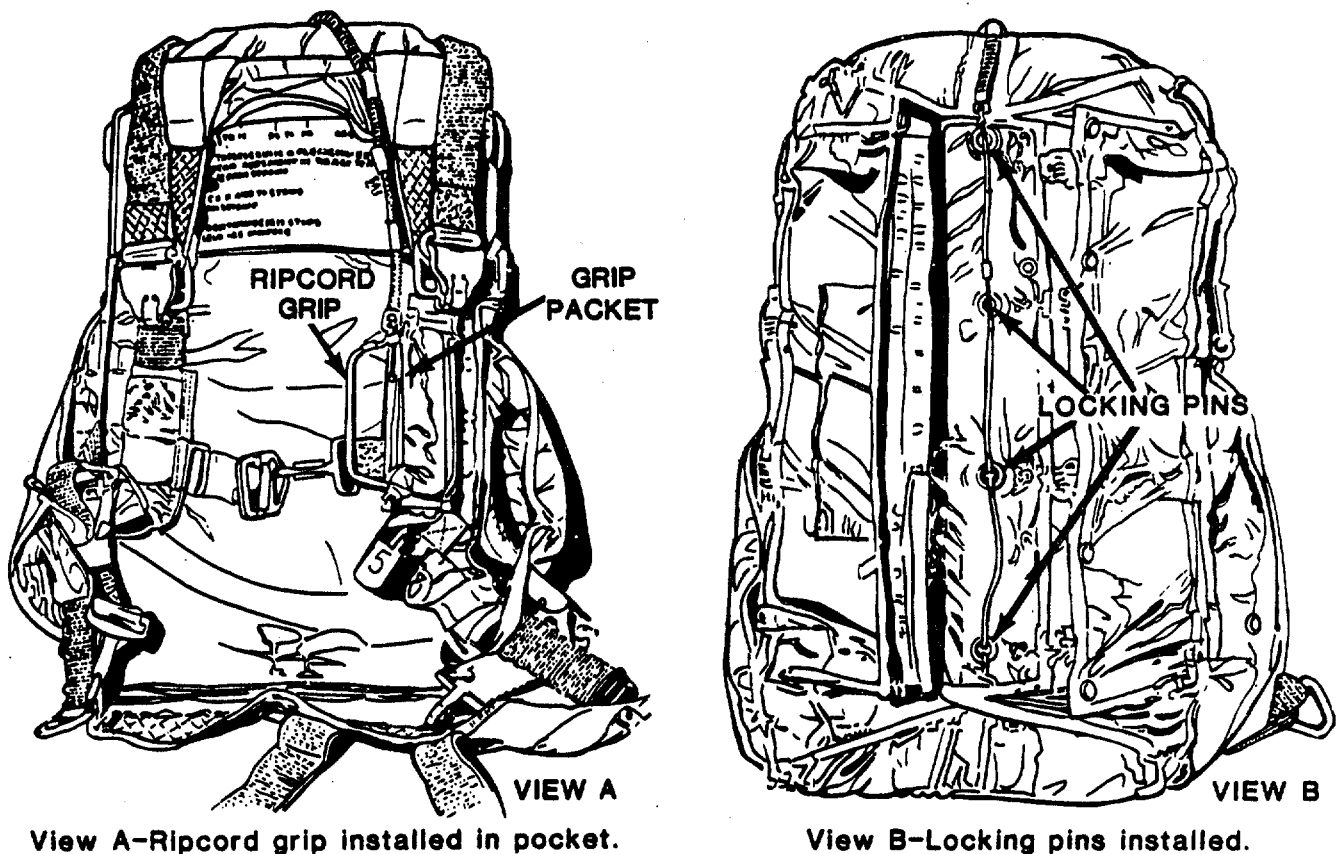
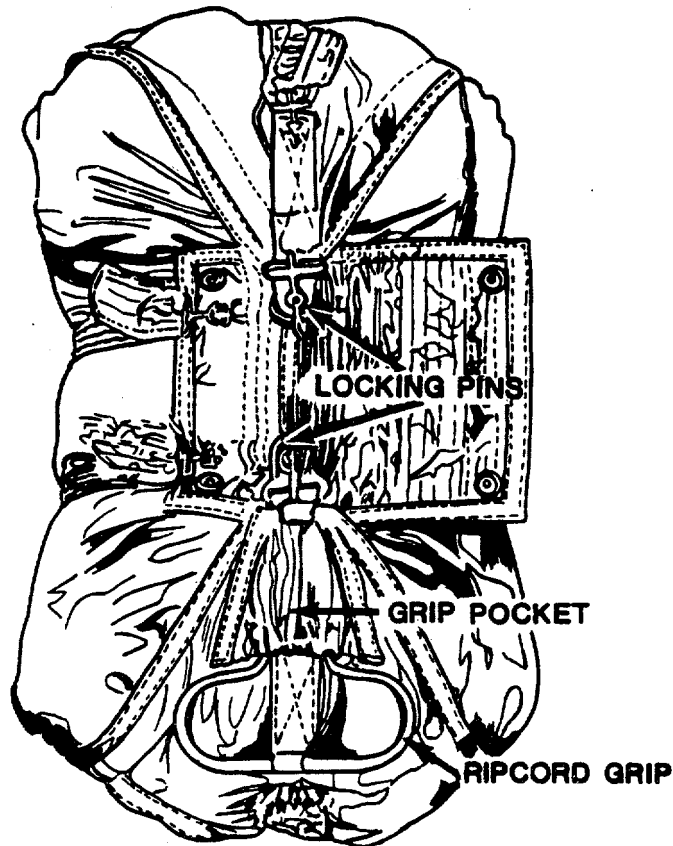

Figure 1.8. Ripcord Grip Installed in Pocket and Locking Pins Installed.
Figure 1-9. The Chest Type Parachute With Ripcord Grip and Locking Pins Installed.
c. *Ripcord.* The ripcord is a cadmium-plated steel grip and a flexible cable to which 1-1/2 inch steel locking pins are attached. A back type parachute is equipped with a trapezoided shaped grip and four locking pins (fig. 1-8). The chest type parachute uses a cloverleaf shaped grip and two locking pins (fig. 1-9). The grip of a back type parachute is positioned in a sewn pocket on the upper left side of the harness and the grip of the chest type parachute is located on the right side of the pack. Pulling of the ripcord will begin the pack opening and canopy deployment sequence.
c. Inspect the ripcord grip to insure the grip is seated securely in the pocket (figs. 1-8 and 19).